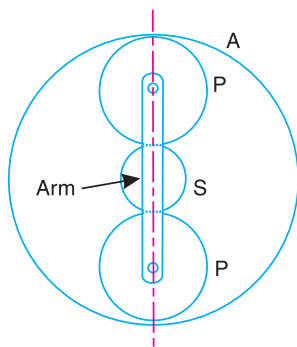

Fig. 13.37
8. An epicyclic gear train, as shown in Fig. 13.37, has a sun wheel  $S$  of 30 teeth and two planet wheels  $P-P$  of 50 teeth. The planet wheels mesh with the internal teeth of a fixed annulus  $A$ . The driving shaft carrying the sunwheel, transmits 4 kW at 300 r.p.m. The driven shaft is connected to an arm which carries the planet wheels. Determine the speed of the driven shaft and the torque transmitted, if the overall efficiency is 95%.